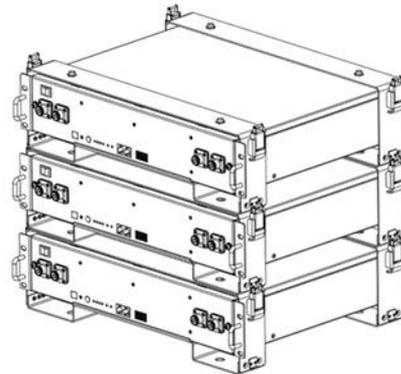

Figure3-7
4. Stack the required number of battery and bracket combinations as described above, and fasten the upper and lower buckles. Shown as Figure3-7.